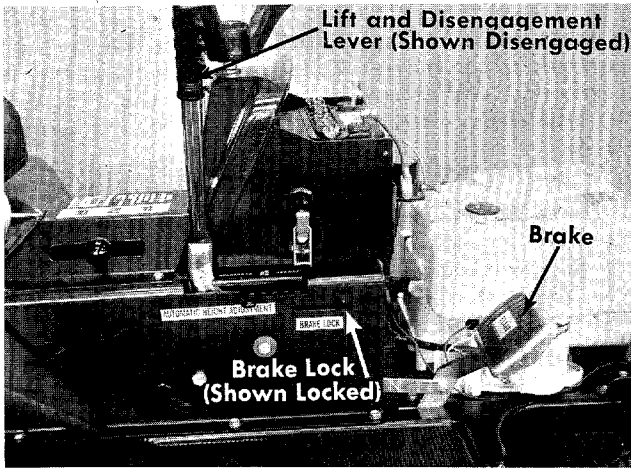

FIGURE 7. RIGHT HAND CONTROLS
c. **Brake.** The brake pedal is located on the right hand side of the mower and is operated by depressing it with your right foot. See figure 7.
d. **Brake Lock.** The brake lock is located on the right hand side of the mower. To lock the brake, depress the brake pedal and lift up the lock button. The pedal will stay depressed. To release, depress the pedal. See figure 7.
l. Lift and Disengagement Lever. It is used to raise the cutting deck. Pulling it all the way back and locking it disengages the blades. The engine will not start unless the lift and disengagement lever is in the disengaged position. See figure 7.
Step 3. Place the lift and disengagement lever in the DISENGAGED position. See figure 7.
To stop the blades, move the lift and disengagement lever (figure 7) into the DISENGAGED position. This raises the deck and disengages the blades.